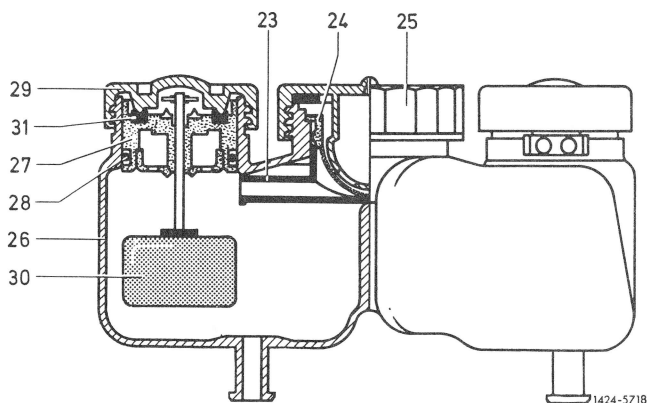

Fig. 6
5 On Teves-compensating tank, unscrew closing cover (25) and both end covers (29). Remove strainer (24), splash guard (23) and both contact inserts (27) together with O-rings (31) (Fig. 6).